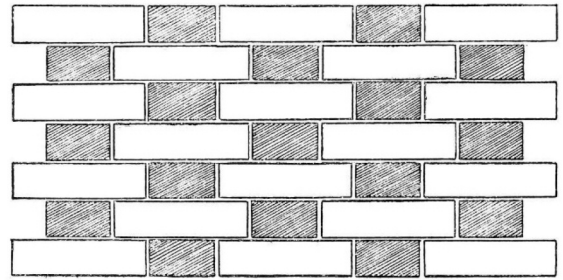

Figure 2
- 6 What brick bond is shown in Figure 2?